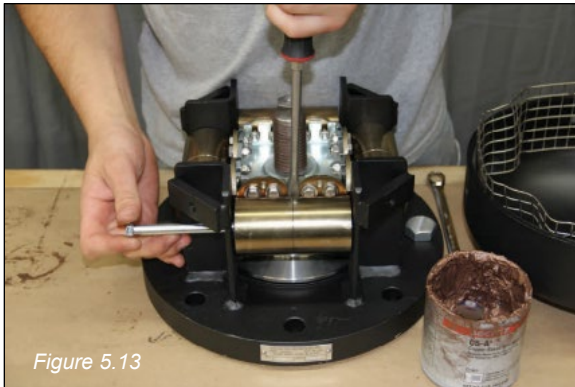

Figure 5.13
6. Insert the drum bolts through the spring brackets in the flange and the spring drums (*Figure 5.13 & 5.14*). Install nylon insert nuts to the drum bolts and ensure the bolts that the bolt threads protrude passed the nylon portion of the nut. Then, determine the thread size of the drum bolt/nut and torque the bolts/nuts according to the following values: